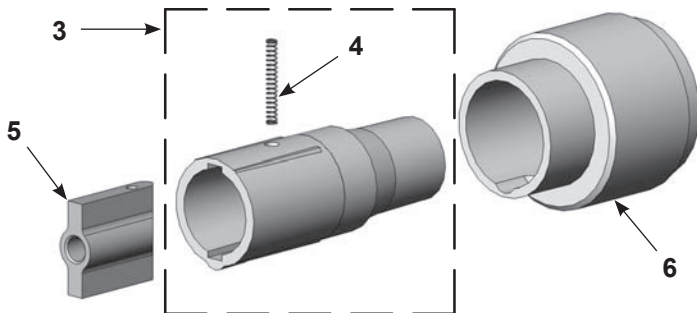

Figure 23 SD Electrode Support Assembly
C. Refer to Figure 23 and parts list for repair parts for the optional SD Electrode Support Assembly kit.